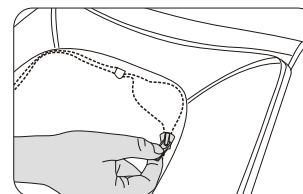

Figure 3
- Zip the backrest kneading cloth open completely, put the cloth on the top of chair (note: please remember to prevent the kneading cloth from dirty or damage). (figure 3)